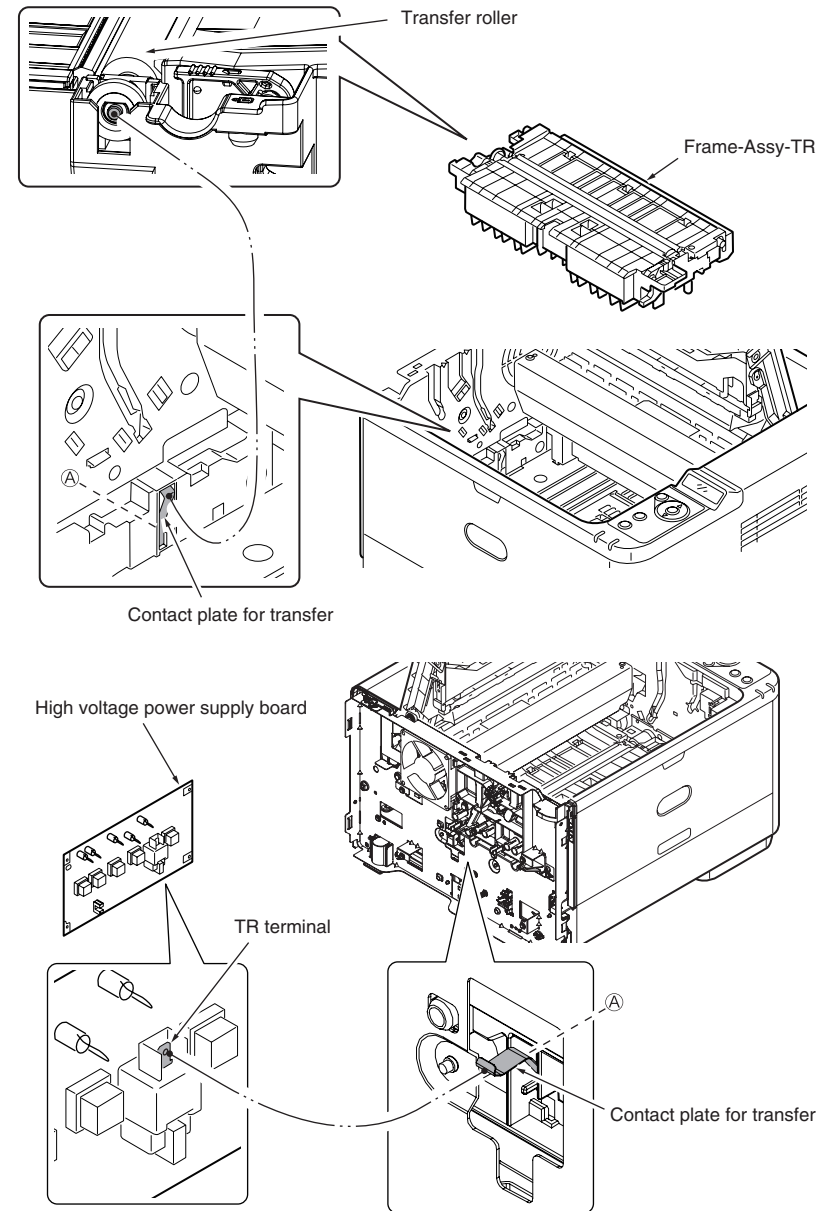

Figure 2-3
- Yes Does the contact plate of the transfer roller contact the TR terminal of the high-voltage power supply unit properly? (See Figure 2-3 , Section 6.2 (9))